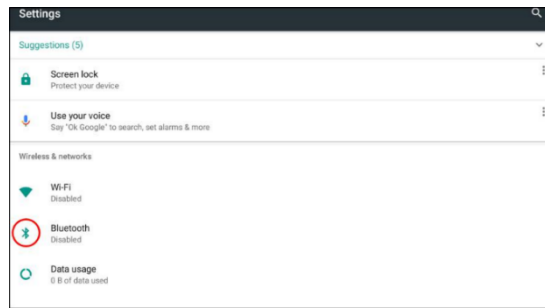

FIG. 8.1: Bluetooth icon in Settings page – Wireless & Network.
- Select the settings relating to Bluetooth connectivity (Figure 8.1);